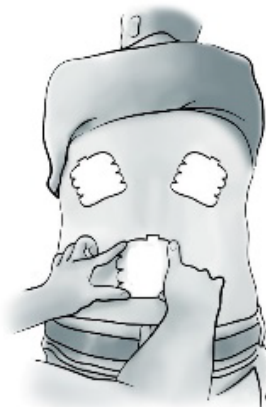

Figure 4: Attachment of the stickers
- Remove the liner from the biggest sticker and attach it to the subject's skin just above the buttocks according to the mark previously made. Do the same for the remaining two upper stickers, as illustrated in Figure 4.